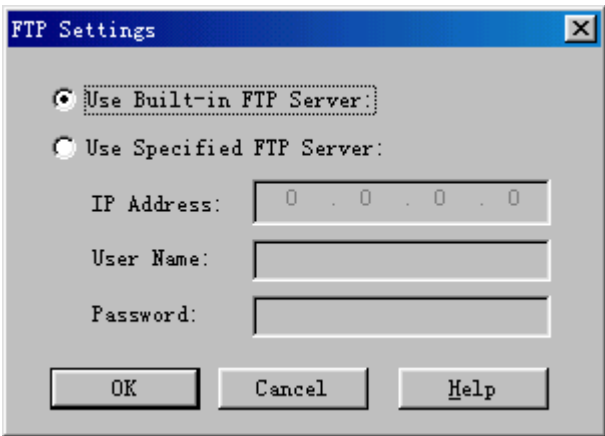

Figure 14-3 FTP Settings dialog box
- Click **Modify...** in the dialog box. The **FTP Settings** dialog box opens up as shown in Figure 14-3.
The **FTP Settings** dialog box opens up as shown in Figure 14-3.